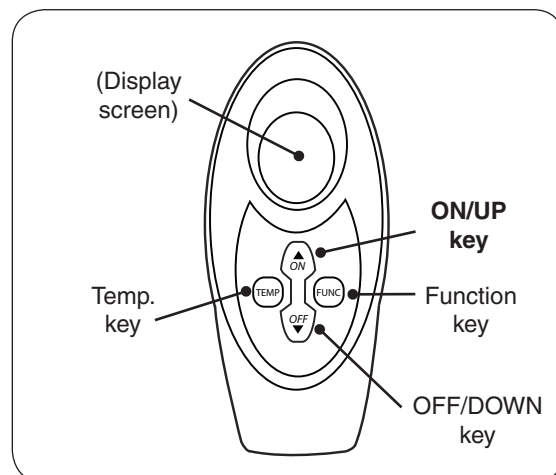

Fig. 11-2 Remote transmitter detail
2. Locate the remote transmitter and press the ON button (see Fig. 11-2). The ignition sequence will begin.